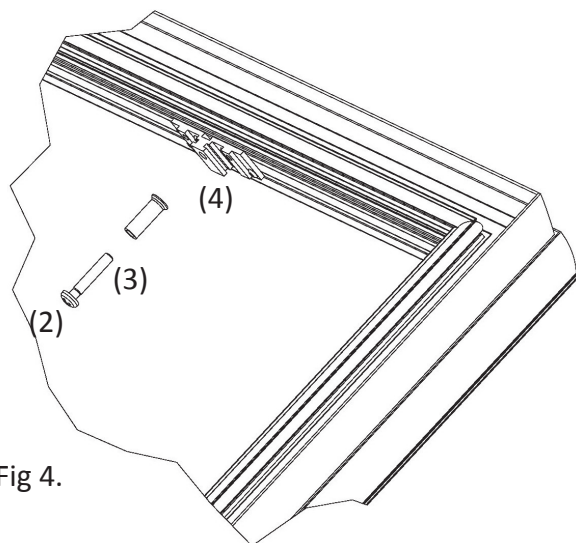
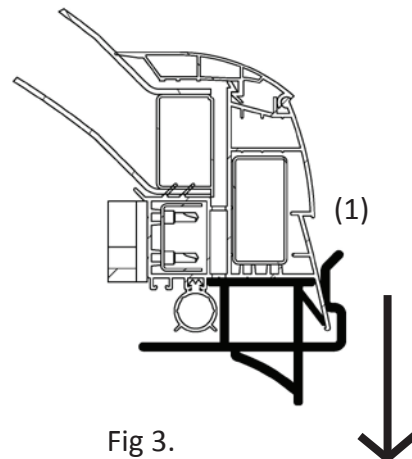

Fig 4.
Fig 3.
3. Remove temporary stacking spacers (1) on Rooflight the direction of arrow. (Fig. 3)
- Head screw M8 (2) and
- Plastic covering (3)
Screw into connection plate. (4) (Fig 4)